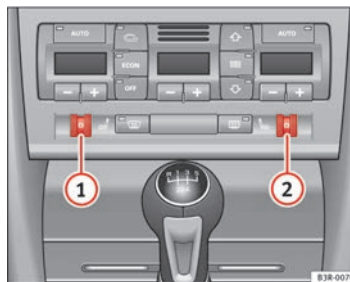

Fig. 131 Detailed view of the dash panel: Thumbwheel controls for seat heating
Turn thumbwheel ① or ② ⇒ Fig. 131 to switch on and adjust the heating on the left or right front seats.